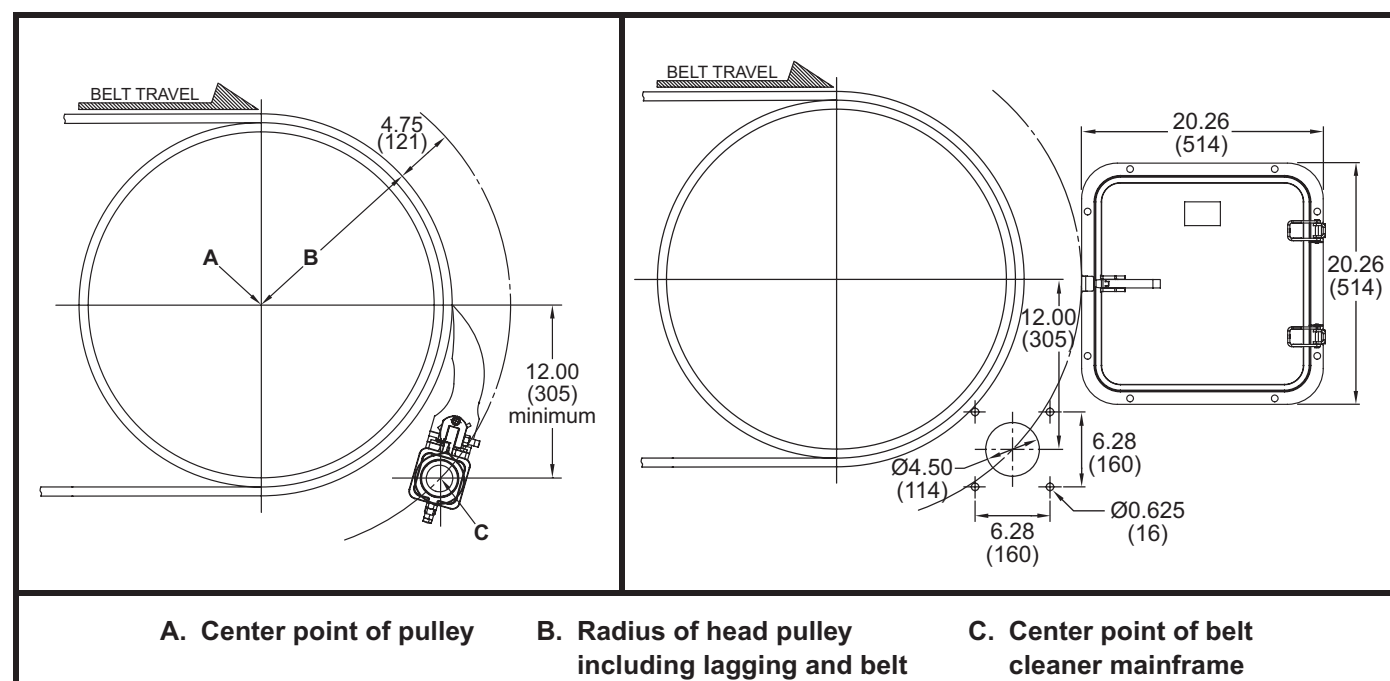

Figure 2. Belt Cleaner Mainframe Location & Chute Wall Cutouts
1. On operator side of chute, find pulley center point (A).
2. Measure radius of head pulley including lagging and belt thickness (B). To this dimension, add 4.75 in. (121 mm).
3. Starting from center point (A), measure the total distance calculated in step 2 and draw an arc on chute wall.
4. Measure down from pulley's horizontal centerline the distance shown in Figure 2 and draw a horizontal line parallel to it. Locate center point of belt cleaner mainframe (C) where this line intersects the arc on the chute wall.